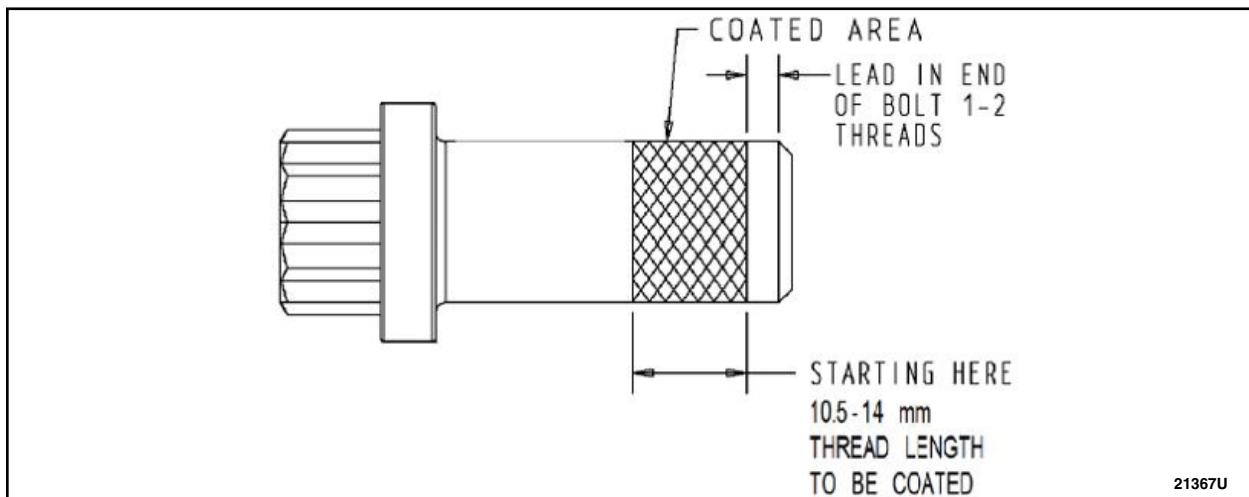

FIGURE 12
9. Inspect the original driveshaft flange to pinion flange bolts for rust in the threads and replace if rusted or damaged. Clean threads of the original driveshaft flange to pinion flange bolts with a wire brush and coat the threads with LOCTITE 243 Blue Medium Strength Threadlocker or equivalent. See Figure 12.